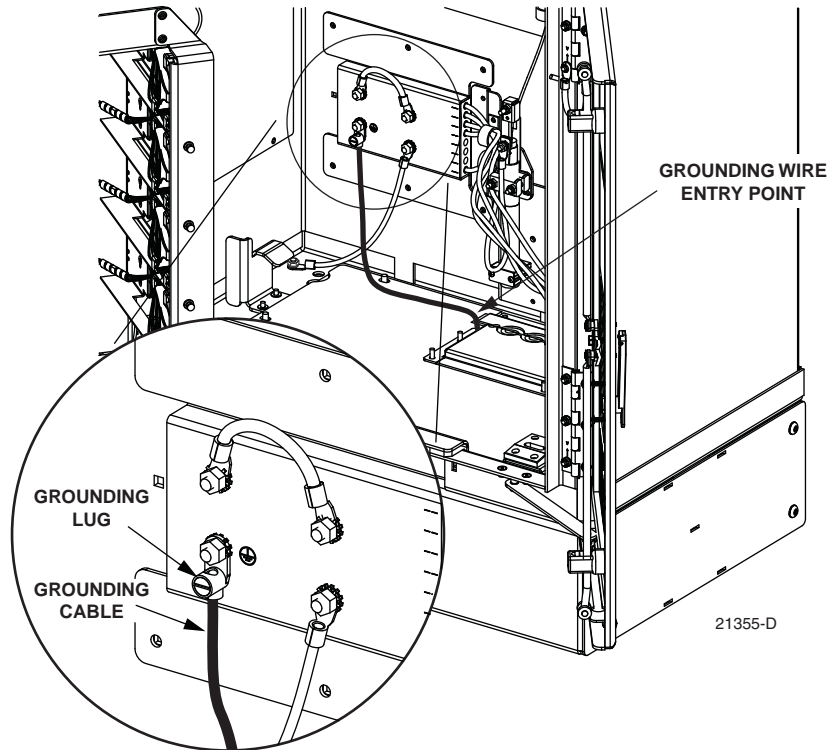

Figure 7. Grounding Wire Connection To Cabinet
2. Working from the bottom side of the cabinet, insert the grounding wire through the flexible membrane at the point indicated in Figure 7.
4. Remove the nut and flat washer from the grounding stud located in the far left corner of the cabinet (see Figure 7).